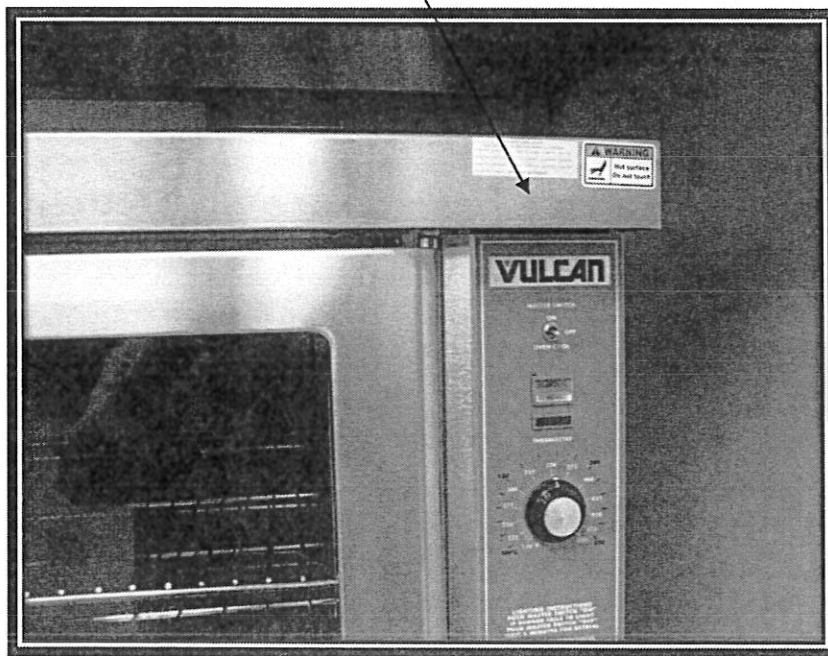

FIGURE 4
5. USING A PERMANENT MARKER, FILL OUT INFORMATION, ELEVATION AND ORIFICE SIZE, ON ELEVATION CONVERSION LABEL, SUPPLIED WITH KIT. APPLY LABEL TO UPPER RIGHT CORNER OF OVEN FRONT AS SHOWN IN FIGURE 4.